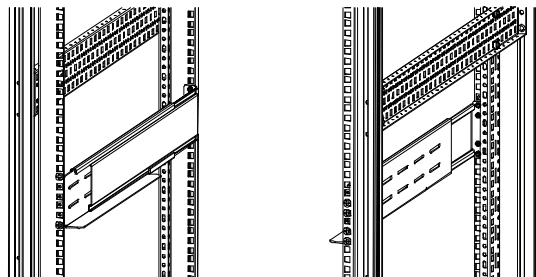

Figure 2-17 Guide rail installation complete
4. Install a three-pole or quadrupole linkage breaker on the mains input neutral line and live line to facilitate cutting power under emergency conditions. Use correct power distribution method (see Figure 2-17) to ensure safety of the UPS and user equipment.